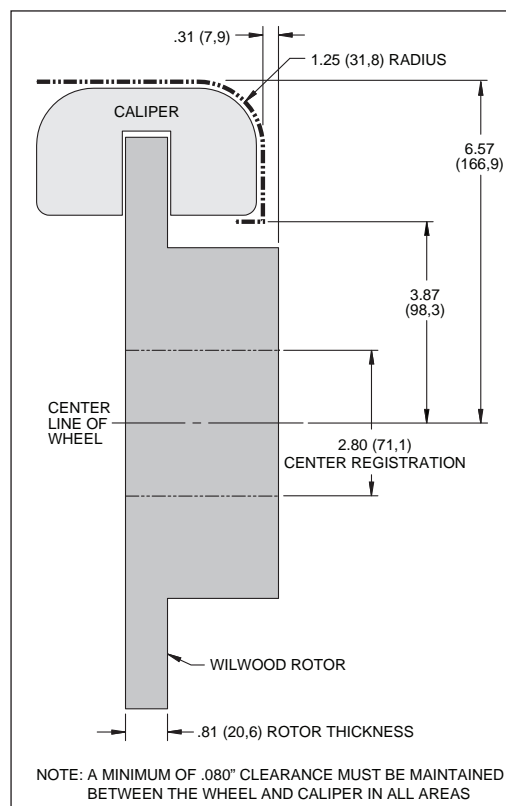

Figure 4. Wheel Clearance Diagram
- Review the Wheel Clearance Diagram (Figure 4, page 4) to verify that there is adequate clearance with the wheels you will be using with the installation.
- Verify your wheel clearance using Figure 4.